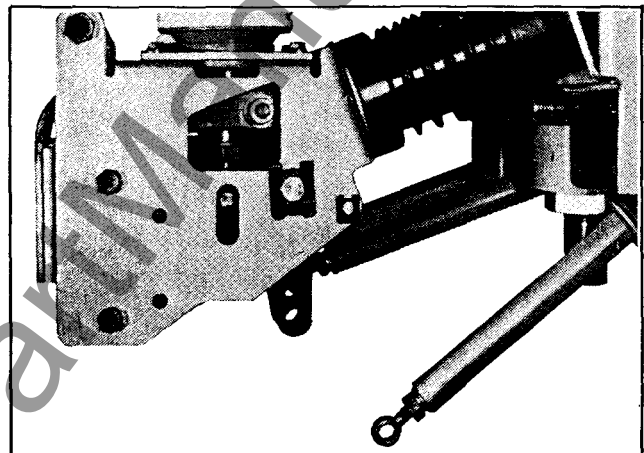

Figure 11. Procedure to Check Vacuum
A) Isolate and open the breaker then detach the insulated coupler 48 from lever 48.6. See Figure 11.
B) The atmosphere pressure will force the moving contact of a hermetically sealed interrupter into the closed position, causing lever 48.6 to move into the position shown in Figure 11. An interrupter that has lost its vacuum will not move closed after being forced open.